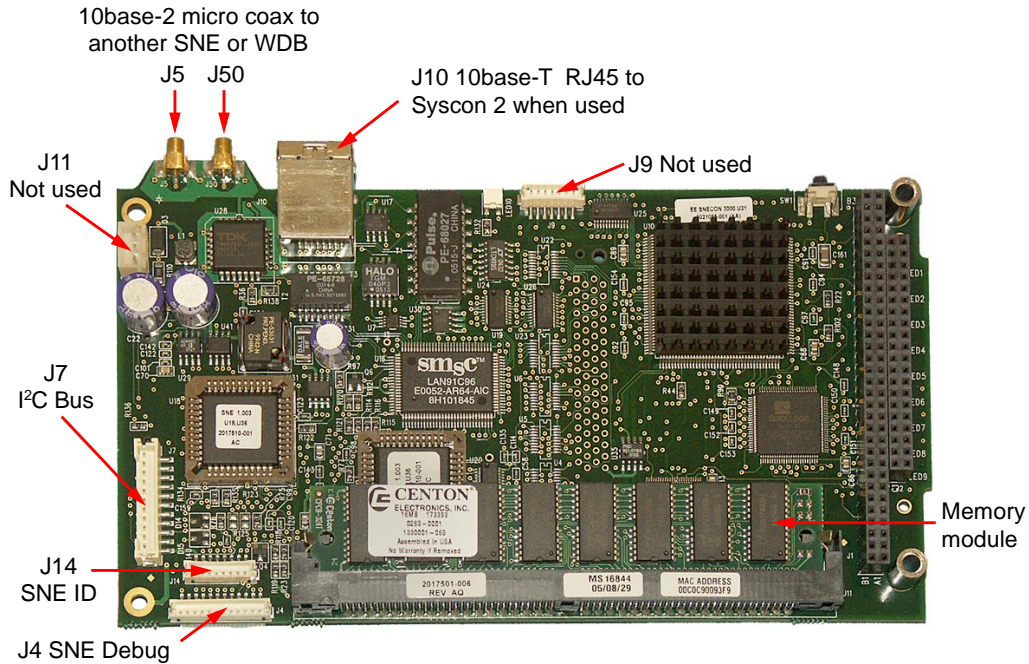

Figure 17. SNECON Board Side A
- * If the analyzer has already been upgraded to SYSCON2 without upgrading the DPMs, the SNE is possibly communicating through a 10base-T cable plugged into the RJ45 jack J10 (See Figure 17), with no 10base-2 cables. Unplug the 10base-T cable from J10 if this is present.